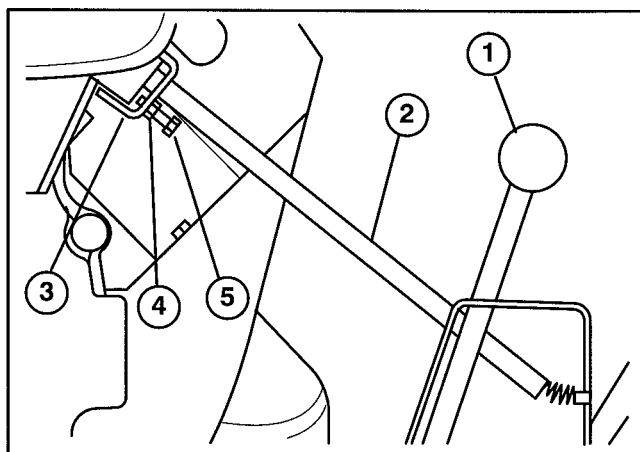

Figure 50
- A. Loosen jam nut on control rod pivot bracket adjusting screw (Fig. 50).